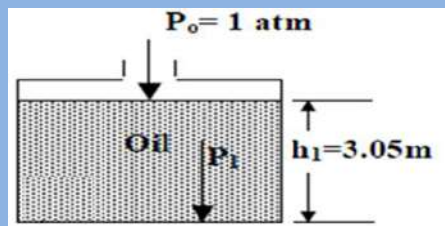

figure1
**Q2/** A large storage tank contain oil having a density of  $917 \text{ kg/m}^3$ . As shown in figure 1. Calculate the pressure in Pa at 3.05 m from the top of the tank and at the bottom. 25 Mark